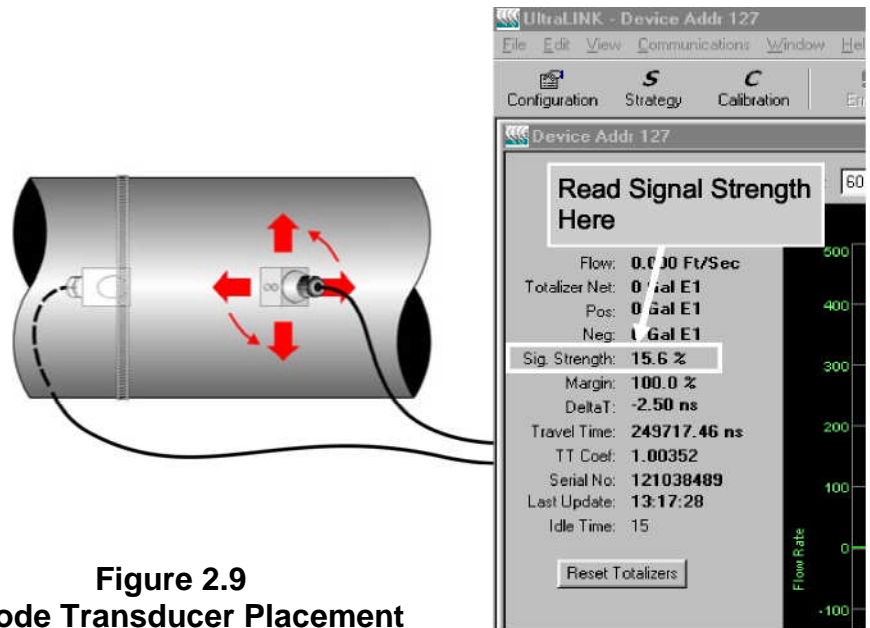

Figure 2.9
7. Place the downstream transducer on the pipe at the calculated transducer spacing. See **Figure 2.9**. Using firm hand pressure, slowly move the transducer both towards and away from the upstream transducer while observing Signal Strength. Clamp the transducer at the position where the highest Signal Strength is observed. Signal Strength of between 4 and 95 percent is acceptable. On certain pipes, a slight twist to the transducer may cause signal strength to rise to acceptable levels.